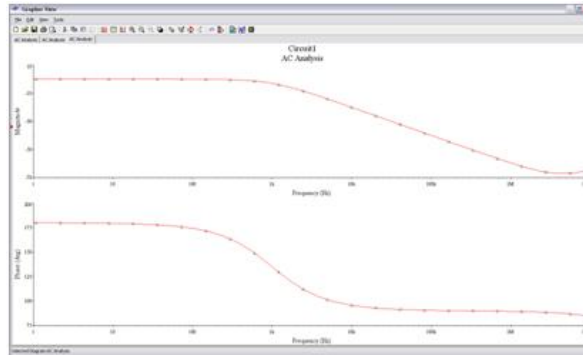

Figure 9. Multisim Analysis Data in the Grapher
5. Click on the **Simulate** button. You will now see your simulation data (Figure 9)